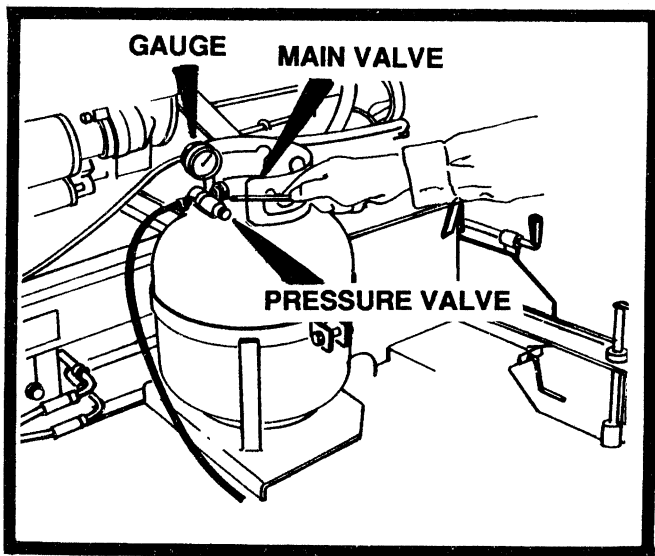

FIGURE 10
1. Turn main valve on the propane tank counter-clockwise to "on" position as shown in figure 10.
2. Adjust pressure valve in or out until gauge reads between 6 and 8 pounds as shown in figure 10.